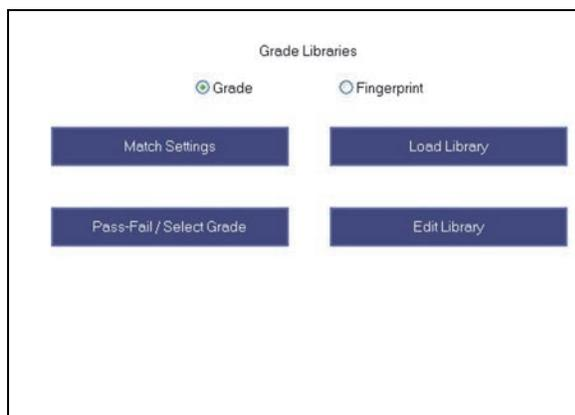

Figure 2-6 The Grade Libraries pane
- Click **Setup > Grade Libraries** to display the **Grade Libraries** pane (see Figure 2-6 on page 51).